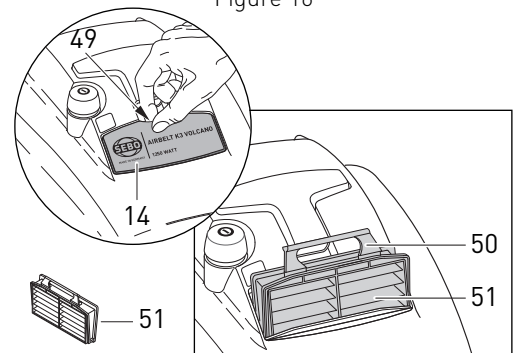

Figure 17
## Changing the Exhaust Filter - Figure 17
The exhaust filter (51) needs to be changed when it becomes extremely dirty or clogged with dust, or after approximately 10 to 20 filter bags have been used. To change the exhaust filter, set the canister flat on the floor as shown in figure 17. Remove the printed cover on top of the machine (14) by lifting the catch (49) in the upholstery nozzle recess (see inset, figure 17). Pull out the filter using the handle (50) and fit the new filter into the same position. The filter handle should point toward the upholstery nozzle when it is folded down. Fit the tabs on the bottom of the cover (14) into the grooves and snap the cover down firmly.